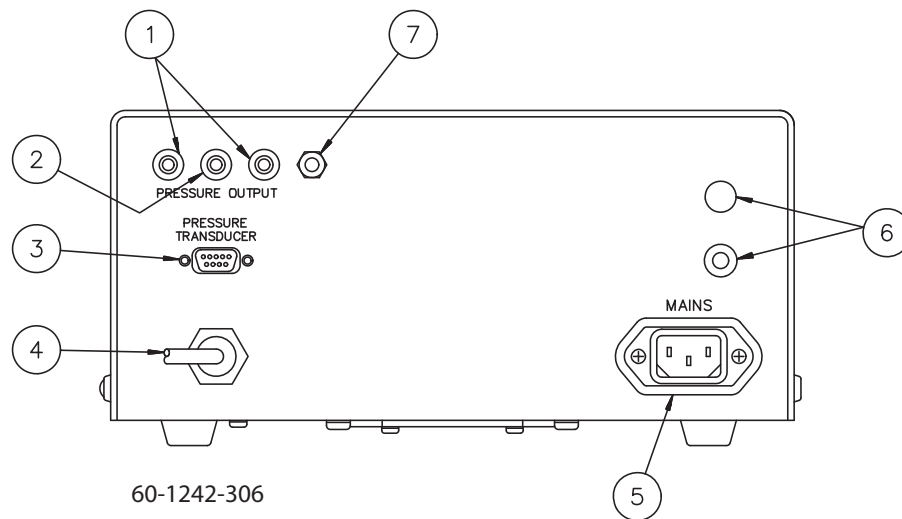
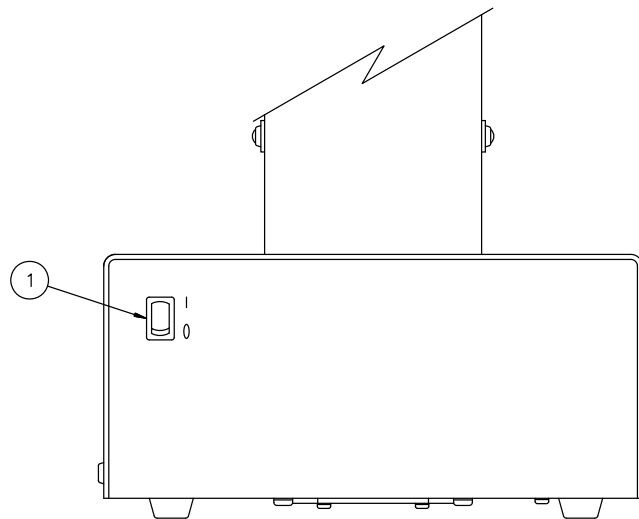

Figure 1-7 Pump rear panel connectors
Figure 1-8 Pump front panel controls
The only operational control on the pump itself is the power switch, shown in Figure 1-8. The rear panel has several connectors, described in Table 1-13, and shown in Figure 1-7.
| Item No. on Figure 1-7 | Connector | Description | | | | | | | | | | | | | | | |
| Item No. on Figure 1-8 | Connector | Description |
1. Connect the pressure transducer cable (which originates from the top of the pump cylinder) to the nine pin sub-D PRESSURE TRANSDUCER connector on the pump rear panel (Figure 1-7). Be sure to tighten the thumbscrews.